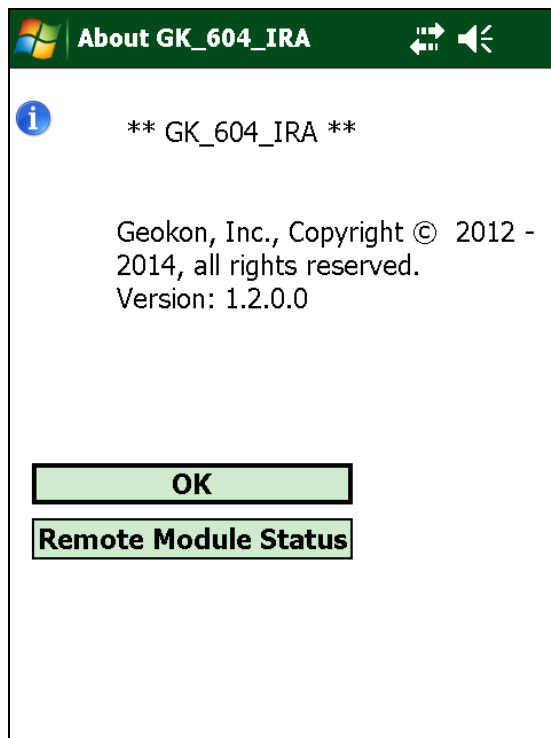
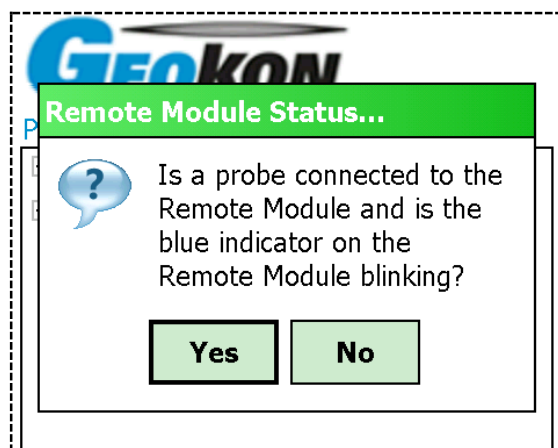

Figure 40 - About GK-604D IRA
Figure 41 - Ready for Connection?
This displays an information panel giving copyright information as well as the application version (see Figure 40). Tapping on the "Remote Module Status" button will display another screen asking if a probe is connected to a Remote Module and is the Remote Module ready to connect (blue light blinking) (see Figure 41).
- the "Auto Record Data" parameter is set to "Enable" (see Figure 40).